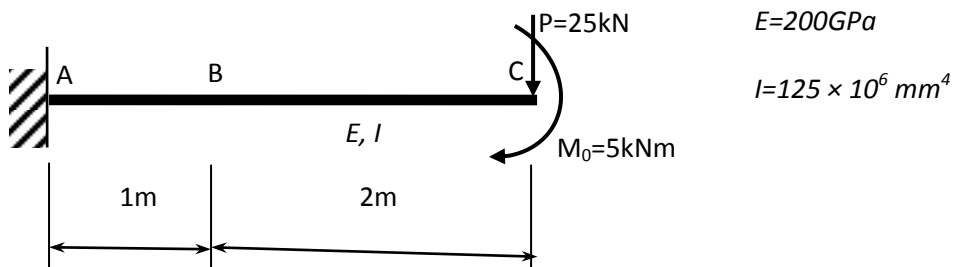

Figure 1
1. (a) Figure 1 shows a cantilever beam subjected to a point load $P=25\text{kN}$ and a concentrated couple $M_0=5\text{kNm}$ at C. Determine the vertical displacement of point B which is located at a distance of 1m from support A. Use method of virtual work.